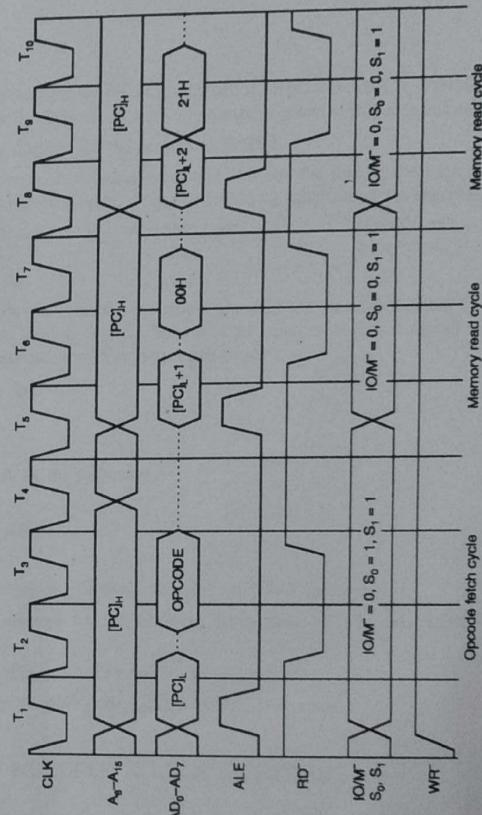

Figure 5.24 Timing diagram of JMP 2100H.
This is a control transfer instruction and this instruction is of three bytes. The first byte is the opcode of JMP and the second byte is 00H and the third byte is 21H. So this instruction requires three machine cycles. The first cycle is opcode fetch, the second and the third cycles are operand fetch. Figure 5.24 shows the timing diagram of JM 2100H.
1. If the condition is true then the process of execution will remain the same as that of unconditional jump, as shown in Figure 5.24.